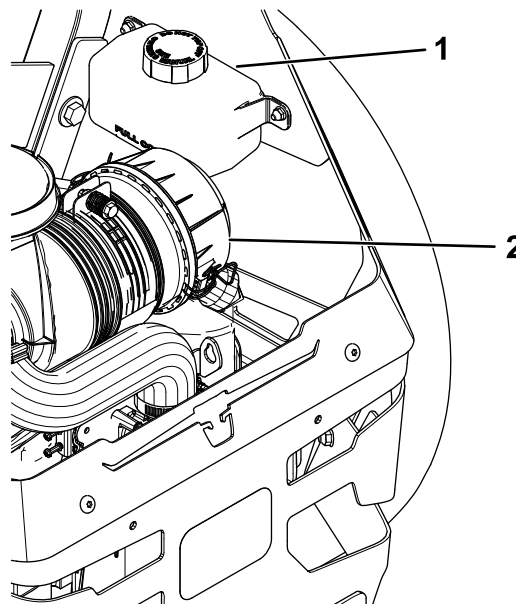

Figure 67
2. Check expansion reservoir and if necessary add Toro® HYPR-OIL™ 500 hydraulic fluid to the FULL COLD line (Figure 67).